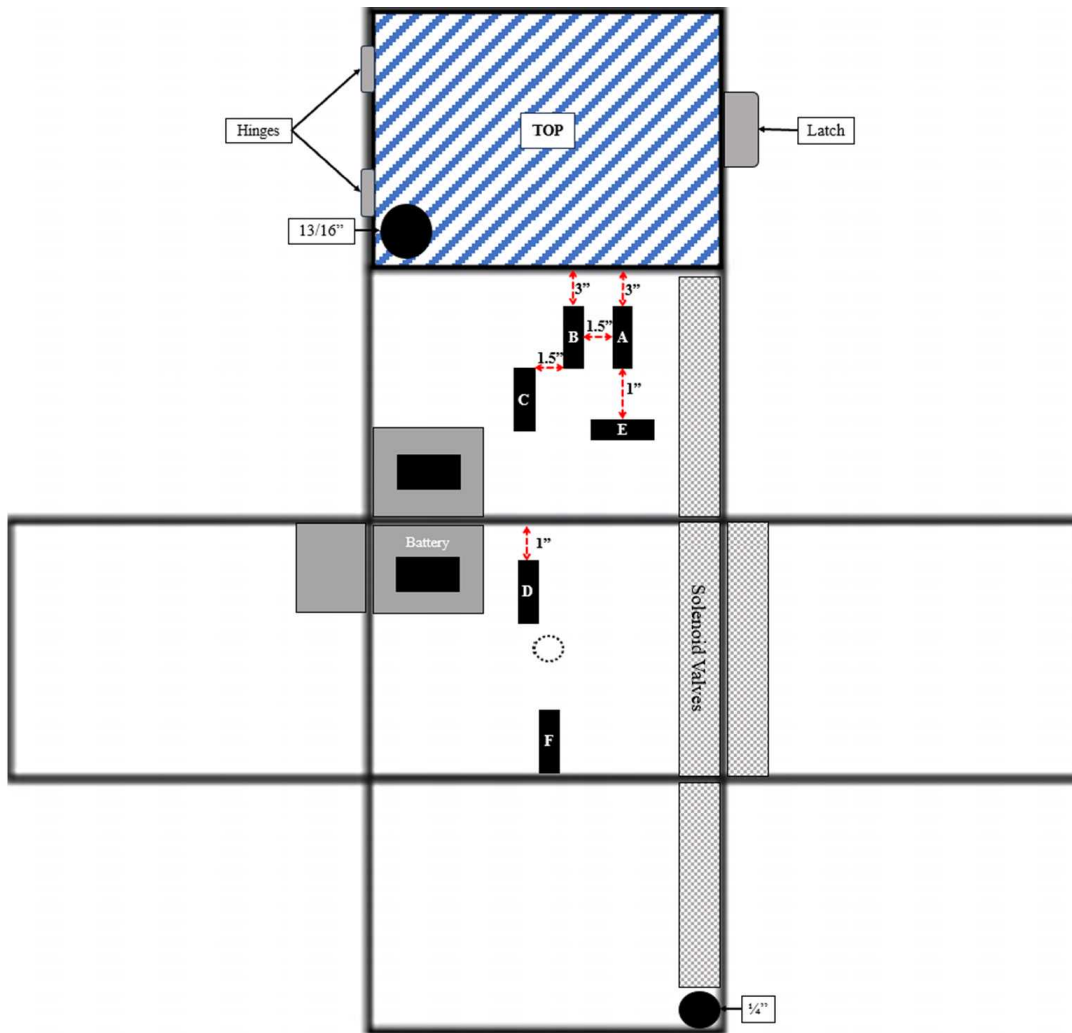

Figure 16. Velcro (soft side) placement in the case.
- (2)-1.5 inch wide by 2.25 inch long pieces.
- 17.6 Attach the Loop (Soft) Velcro to the inside of the case (Figure 16).
- 17.8 The battery will be situated in the corner of the box below the 13/16" hole with the prongs facing into the middle of the case. It will have Velcro on one side of the battery and on the bottom (1.5 inch by 2.25 inch Velcro size). See Figure 16.
- 17.13 Place the circuit assembly and solenoid valve assembly into the case and position it with the proper piece of Velcro it is meant to line up with (Figure 16). Additionally, make sure the solenoid valve assembly is positioned that the check valve with barb is aligned with the plastic tubing located in the 1/4 inch drill hole.